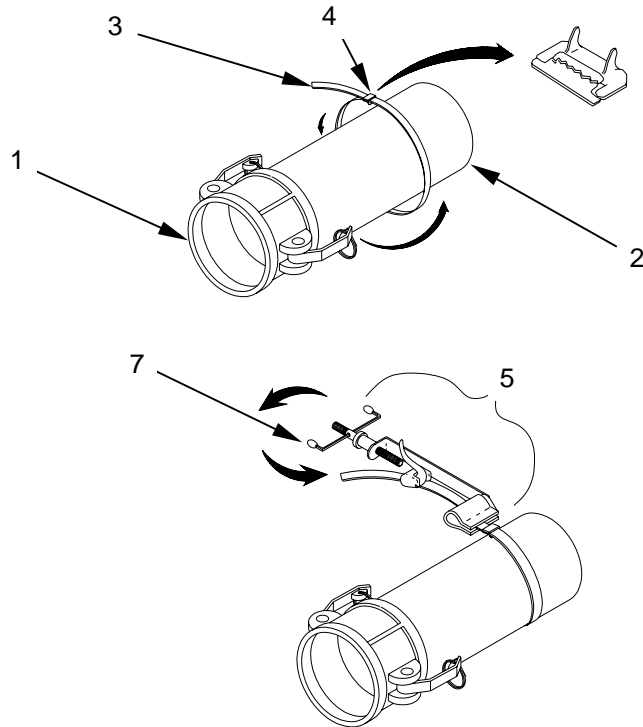

Figure 2. Fastening Banding Strap
3. Insert serviceable coupling (**figure 2, item 1**) into hose (**figure 2, item 2**).
- a. Cut a 36-inch section of banding (**figure 2, item 3**).
- b. Slide buckle onto banding (**figure 2, item 3**); bend end of banding (**figure 2, item 3**) under buckle (**figure 2, item 4**).
- c. Wrap opposite end of banding (**figure 2, item 3**) around hose (**figure 2, item 2**) and through buckle (**figure 2, item 4**). Position banding (**figure 2, item 3**) on hose approximately one inch from coupling (**figure 2, item 1**).
- d. Wrap another loop of banding (**figure 2, item 3**) around hose and through buckle (**figure 2, item 4**).
- e. Position banding (**figure 2, item 3**) in slots of banding tool (**figure 2, item 5**).